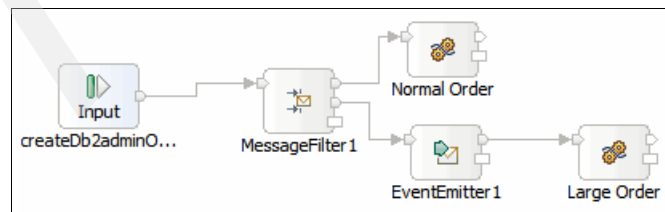

Figure 6-85 Connected primitives
- Rename the custom mediation primitives to Normal Order and Large Order and connect the primitives together as in Figure 6-85. Wire Normal Order to the default terminal of Message Filter and Event Emitter to the match1 terminal of Message Filter. In this way, orders that are received by the Message Filter are routed to Normal Order by default. Large orders are routed to Large Orders, and an event is emitted by the Event Emitter primitive.